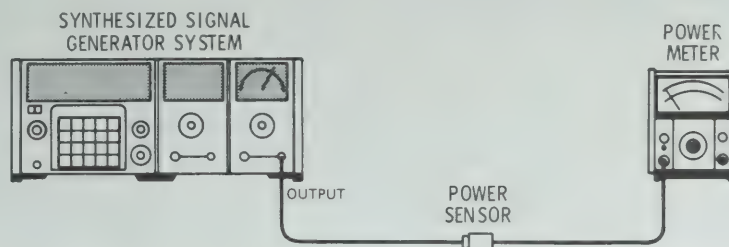

Figure 5-1. RF Output Level Adjustment Test Setup
3. Interconnect the equipment as illustrated in Figure 5-1.